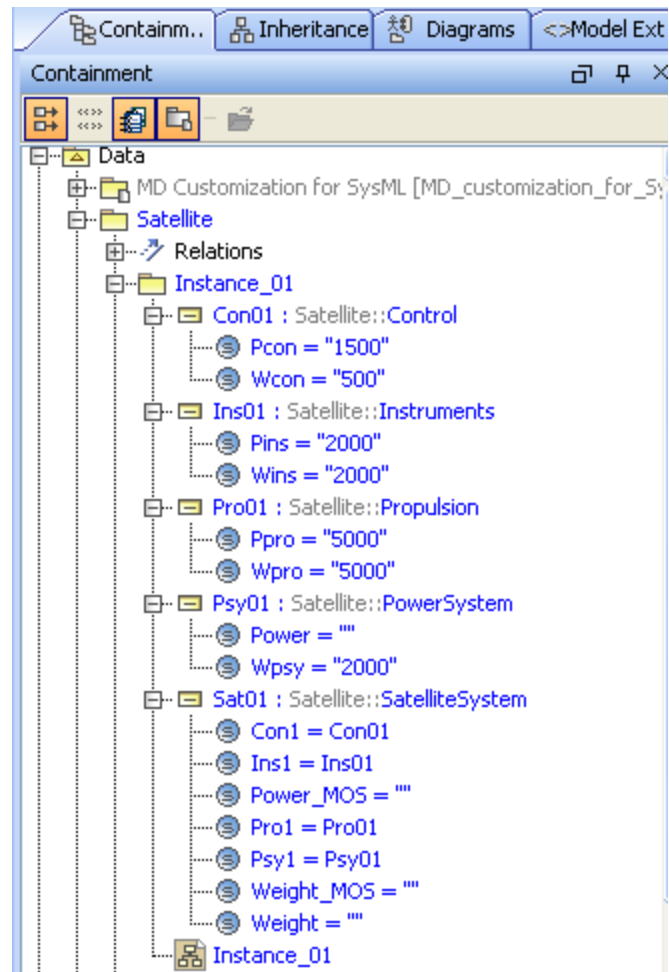
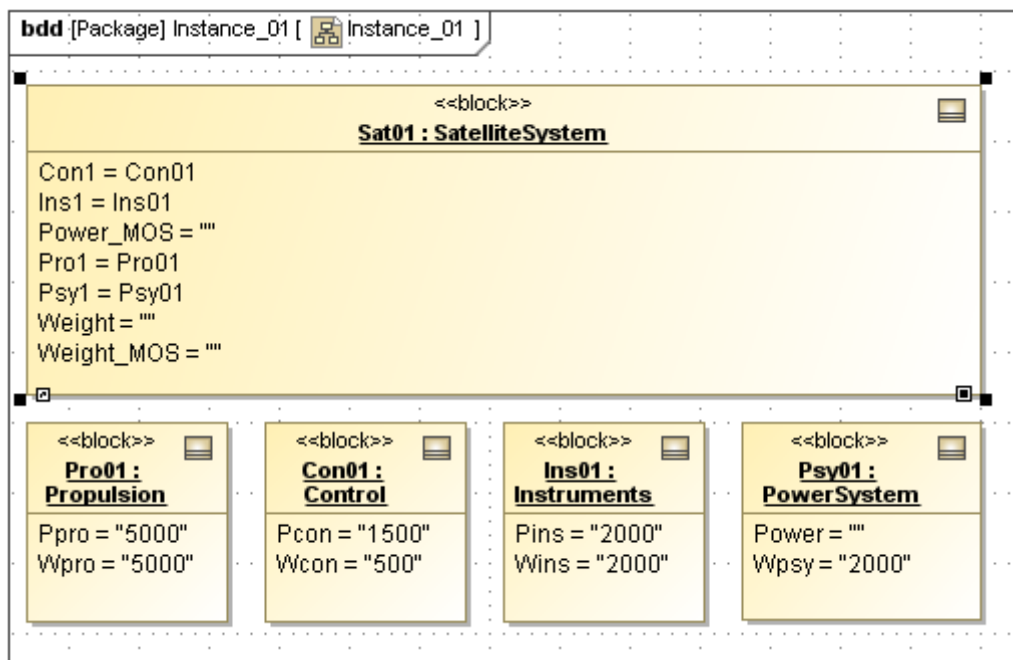

Figure 3.9a Satellite Instance_01 Tree, after revision
Figure 3.9b Satellite Instance_01 Diagram
- d. The instance package should appear as in Figure 3.9a and the instance diagram should appear similar to Figure 3.9b.